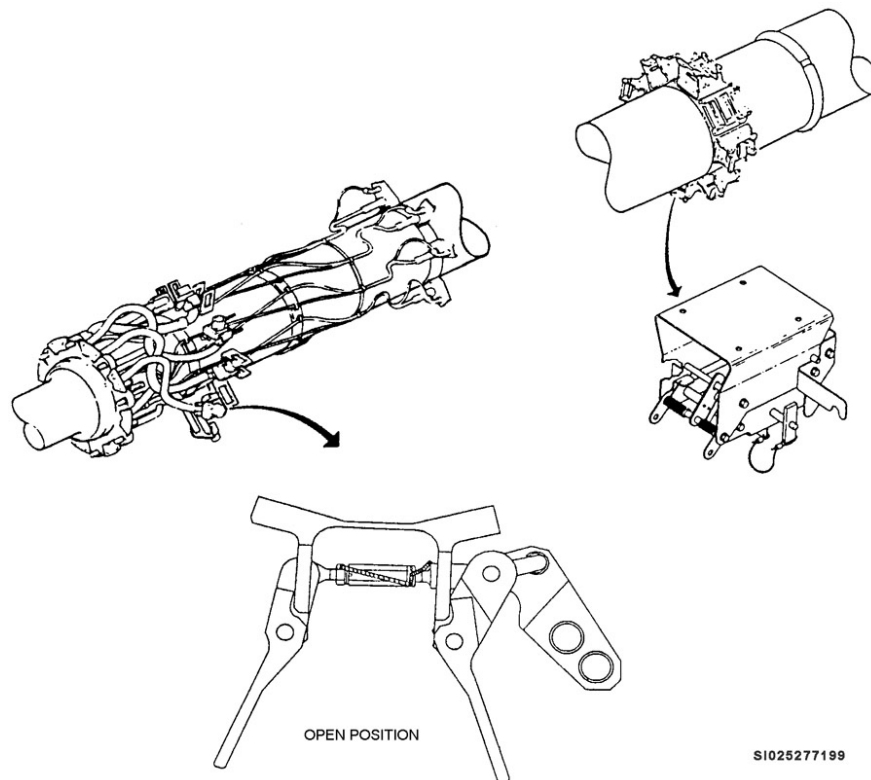

Figure 4-21. Launcher component location.
2. Remove the umbilical cable (fig. 4-21) from the CSRL stowage bracket and the ejector cable from the stowage bracket at station 1. Use care to make sure you have the correct umbilical and ejector connector for the position you are mating.